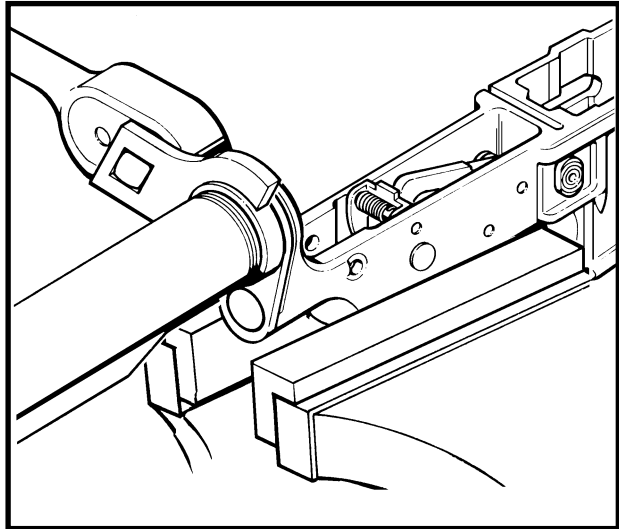

Figure 3-2-53 Unscrewing the Receiver Extension Nut
- b. Unscrew the receiver extension nut, in a counter-clockwise direction, when viewed from the rear, with the hook wrench (CF62420) and a 1/2 inch drive ratchet. See Figure 3-2-53;